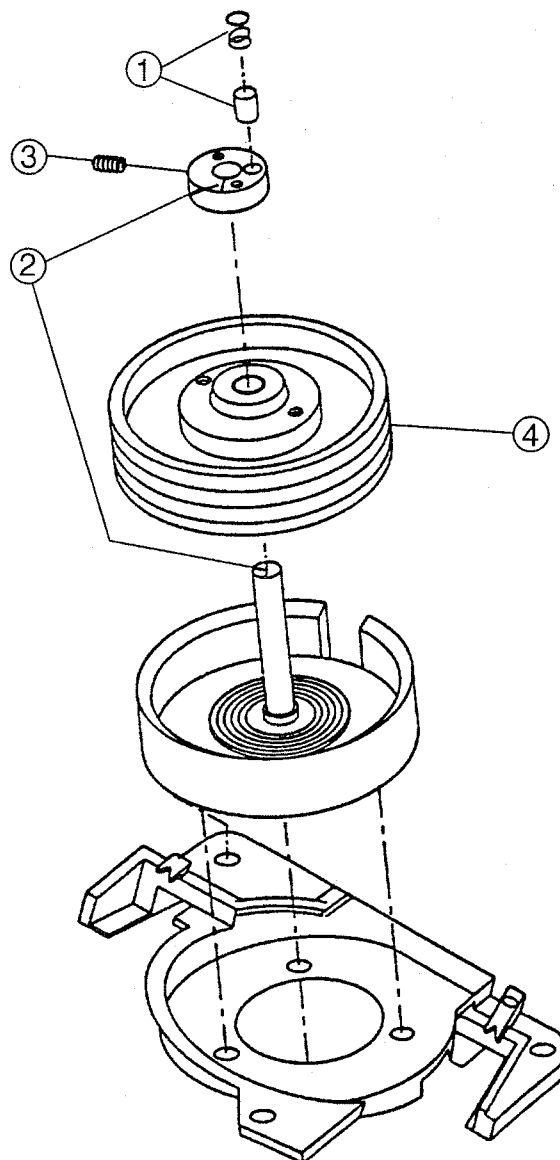

Figure 4-44(a)
- 1) Some rotary transformer clearance shims are packaged in the servicing upper drum assembly or lower drum assembly. Install the thinnest (0.06mm) of the shims onto the lower drum shaft. (Refer to Fig. 4-44(b) for thickness.)